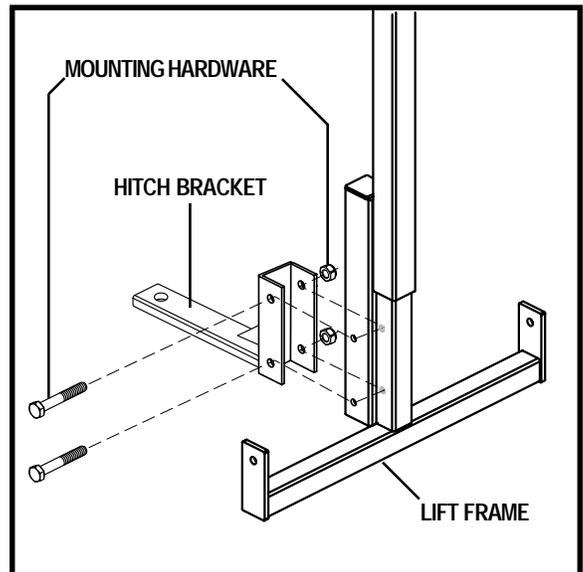

Figure 1. Hitch Tube Assembly (Class 1 Hitch Bracket Shown)
1. Remove the pre-assembled mounting hardware from the Class 1 hitch bracket or Class 2 or Class 3 hitch tube and use it to attach the hitch bracket/hitch tube to the lift frame. See figure 1.